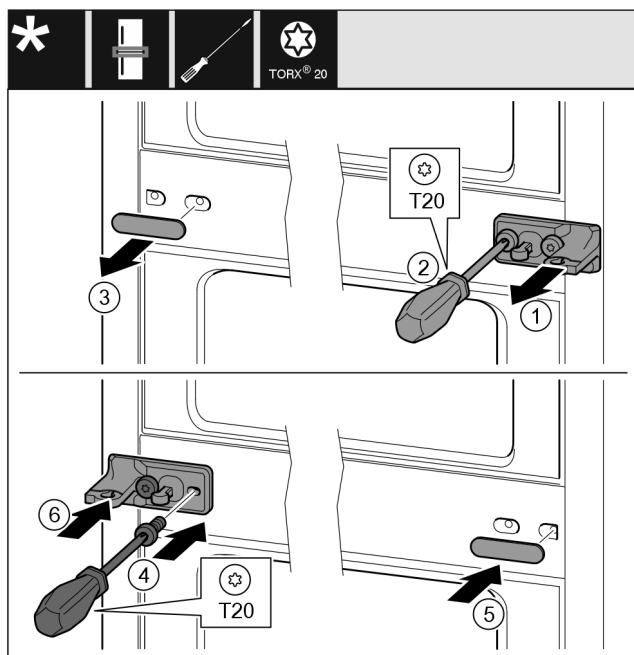

Fig. 23
- Remove the washer Fig. 23 (1).
- Unscrew screws Fig. 23 (2) with screwdriver.
- Remove the cover Fig. 23 (3) carefully.
- Turn the bearing block with film Fig. 23 (4) by 180° and screw it tight on the other side.
- Turn the cover Fig. 23 (5) by 180° and attach to the other side.
- Slide on the washer Fig. 23 (6) from the front.